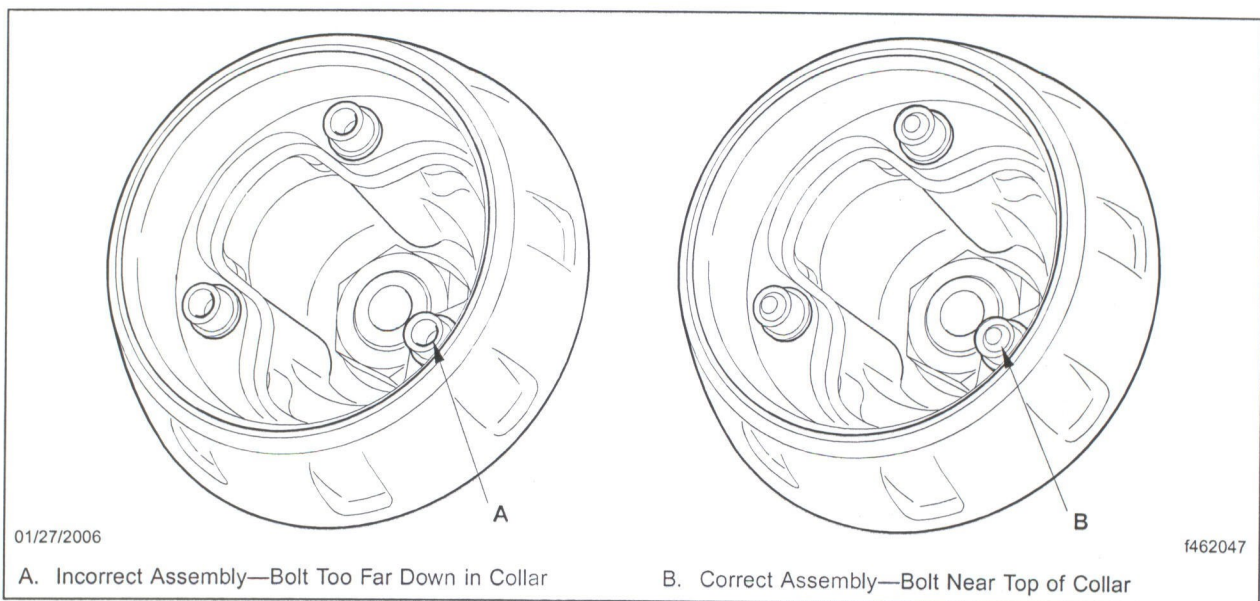

Fig. 2, Huck Fastener Inspection
2. If you have one or more of these steering wheels currently in your parts inventory, inspect the Huck fasteners for the correct length. See the "Steering Wheel Inspection" procedure starting on page 8 of this bulletin (especially **Fig. 2** on page 9).
6. Use the tip of your finger to test the three Huck fasteners for proper engagement. A fastener is acceptable when the dark-colored center bolt can be felt with your finger or seen to be at the upper end of the collar. A fastener is not properly engaged when it is felt with your finger or seen to be below the upper end of the collar. See Fig. 2.